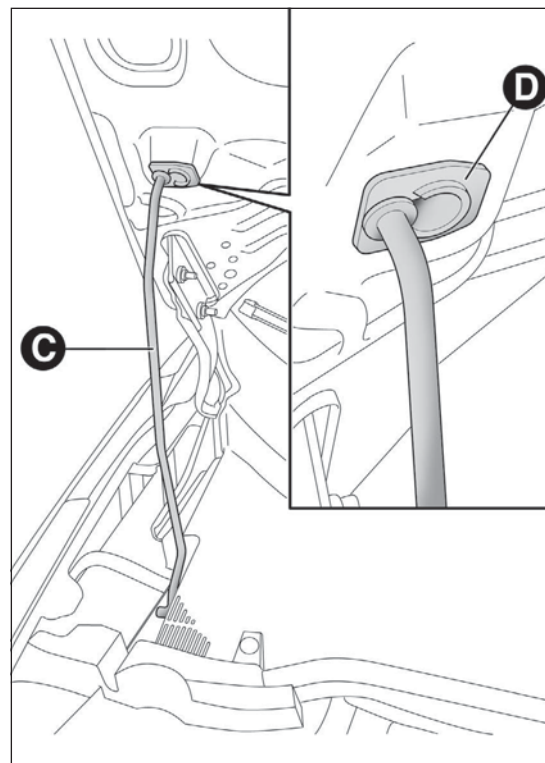

fig. 69
- lift the bonnet and, at the same time, release bonnet stay C fig. 69 from its locking device. Then, insert the end in housing D, making sure that the stay is engaged in the smallest opening of the retaining clip.
- ☐ hold the bonnet up with one hand and with the other remove rod C fig. 69 from housing D and fit it back into its locking device;